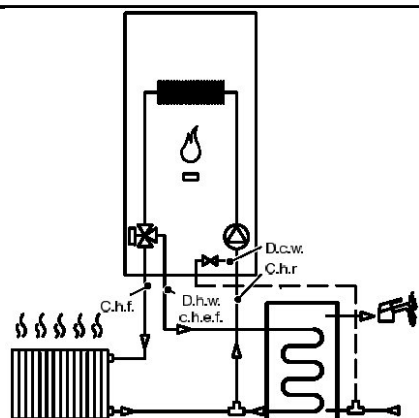

Fig. 5.25
D.h.w. storage tank must be positioned beneath the boiler (Fig. 5.25)